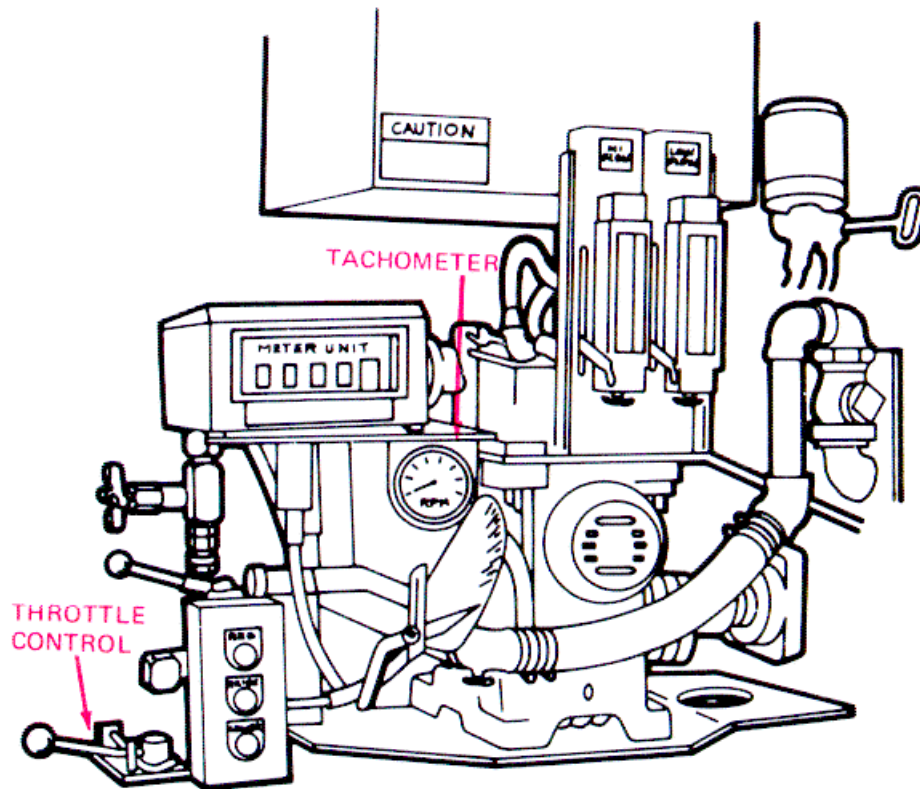

Figure 2-40. Tachometer and Throttle Control.
- d. Check Tachometer. (See fig. 2-40) Tachometer should read 1620-1720 rpm. Use throttle control to adjust speed, if necessary.
After the control valve is open, recheck the tachometer. If necessary, adjust the throttle control to obtain a pump speed of 1620-1720 rpm (fig. 2-40).